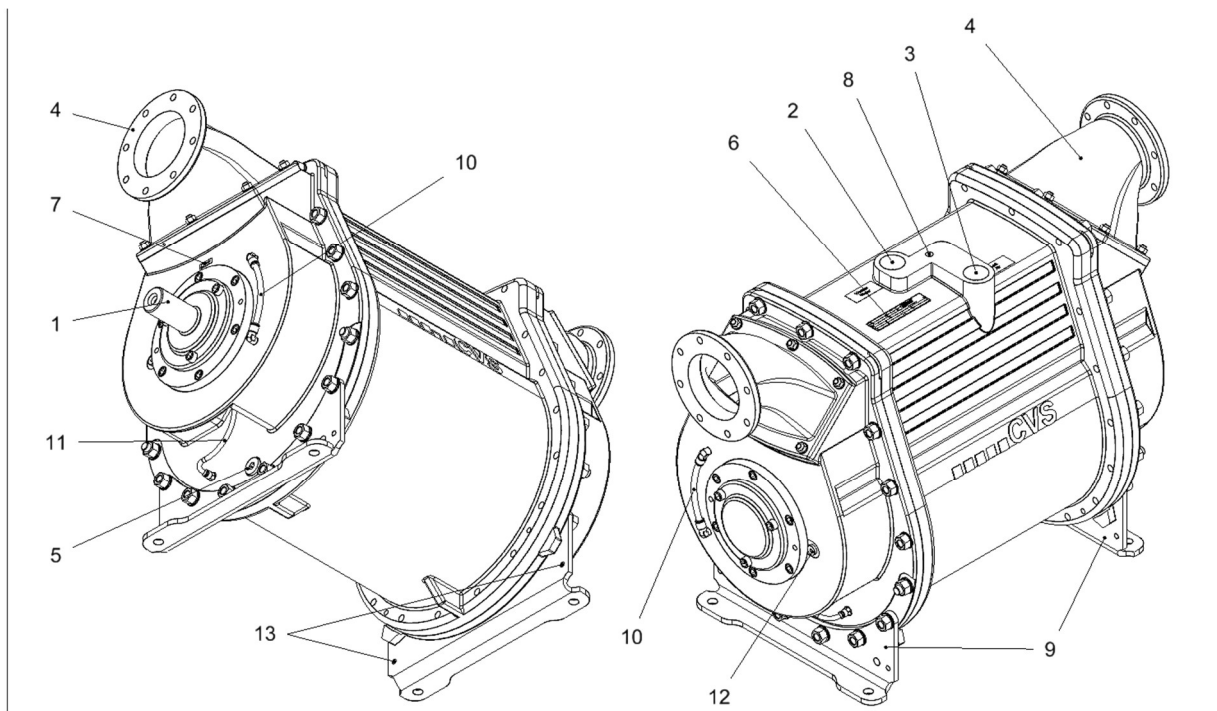

Fig. 3: Aufbau
The rating plate is located on the top of the VacuStar WR (s. Fig. 3, Pos. 6)
See rotating arrow page 24, Fig. 3, Pos. 7
Top up process water directly on the VacuStar WR up to the middle of the shaft (see page 24, Fig. 3, Pos. 10). The water stop valves in the process water supply line prevent the VacuStar WR from being filled up from the process water reservoir.
- Before the unit is started, the liquid ring pump must always be approximately half full (shaft centre) with liquid (see page 24, Fig. 3, Pos. 10).